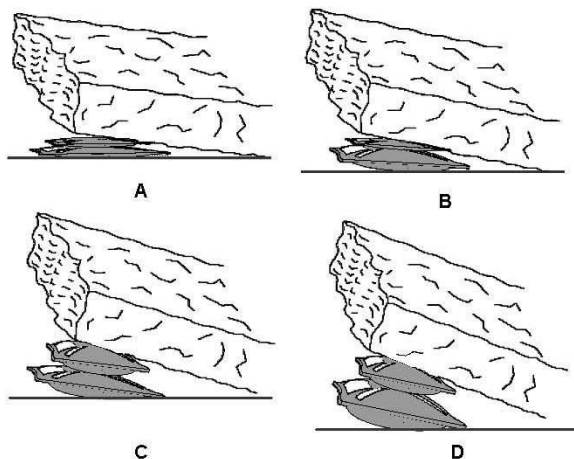

Figure 2-5. Correct Method for Inflating Stacked Lift Bags
g. If the lift requirement demands the use of two stacked lift bags, (figure 2-5) the smaller lift bag be on top (A) and the bottom lift bag inflated first until top lift bag contacts with the load (B). The top lift bag is then inflated to achieve the desired lift(C). If additional lift is required at full inflation of the top lift bag is further inflated (D).